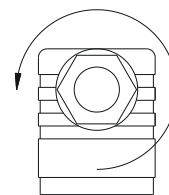

Fig. 7
- ↪ Loosen the screwed cable gland ⑤ M16x1,5 (⇒ Fig. 7).